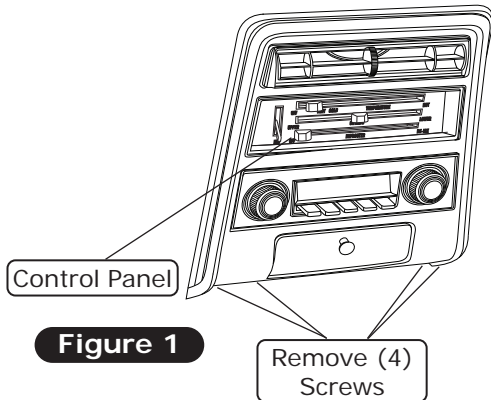
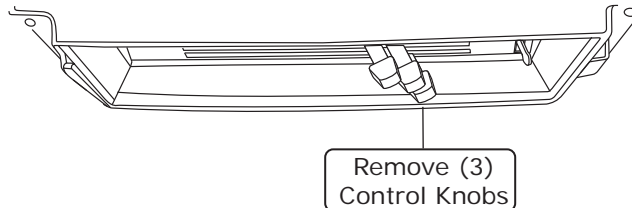

Figure 1
Figure 2
1. Remove the (4) mounting screws from the bottom of the dash bezel (See Figure 1, below).
2. Remove the (4) screws from behind the dash bezel, and remove the control panel.
4. Remove the (3) control knobs (retain) (See Figure 2, below).